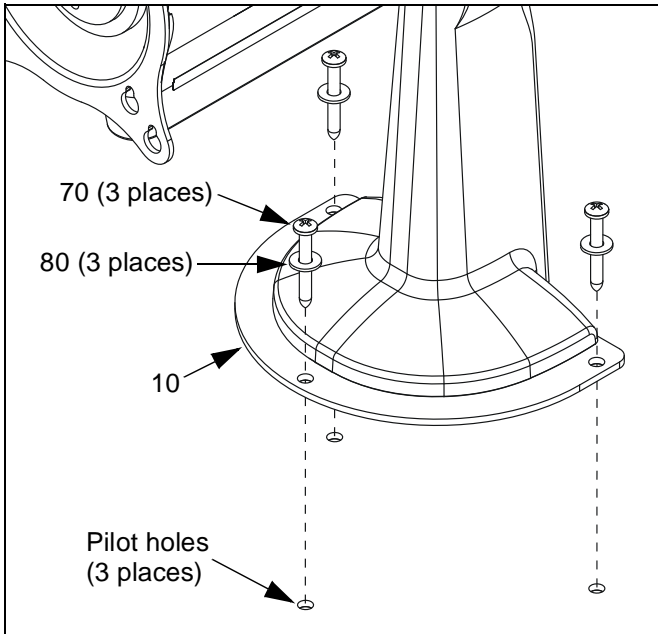

Figure 2: Install Mount
2. Using mount (10) as a template, mark location of three pilot holes.
3. Drill three 1/8" diameter pilot holes in mounting structure at locations marked in previous step (See Figure 2). Ensure pilot holes are straight.
4. Using Phillips screwdriver, install screws (70) through washers (80) and mount (10) into pilot holes (See Figure 2). Tighten securely.